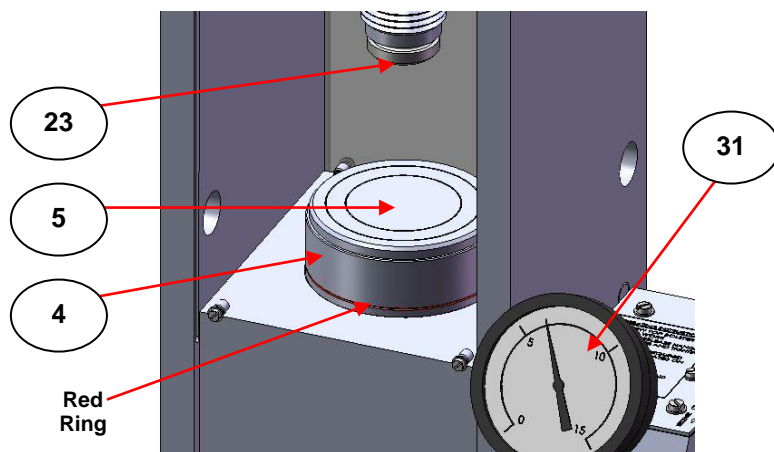

Fig 6. Maximum Limit of Piston (4) Travel (Red Ring Showing)
There is a maximum piston (4) travel of 25 mm. There is a red ring around the piston (4) showing when the limit is reached (See Fig 6.)